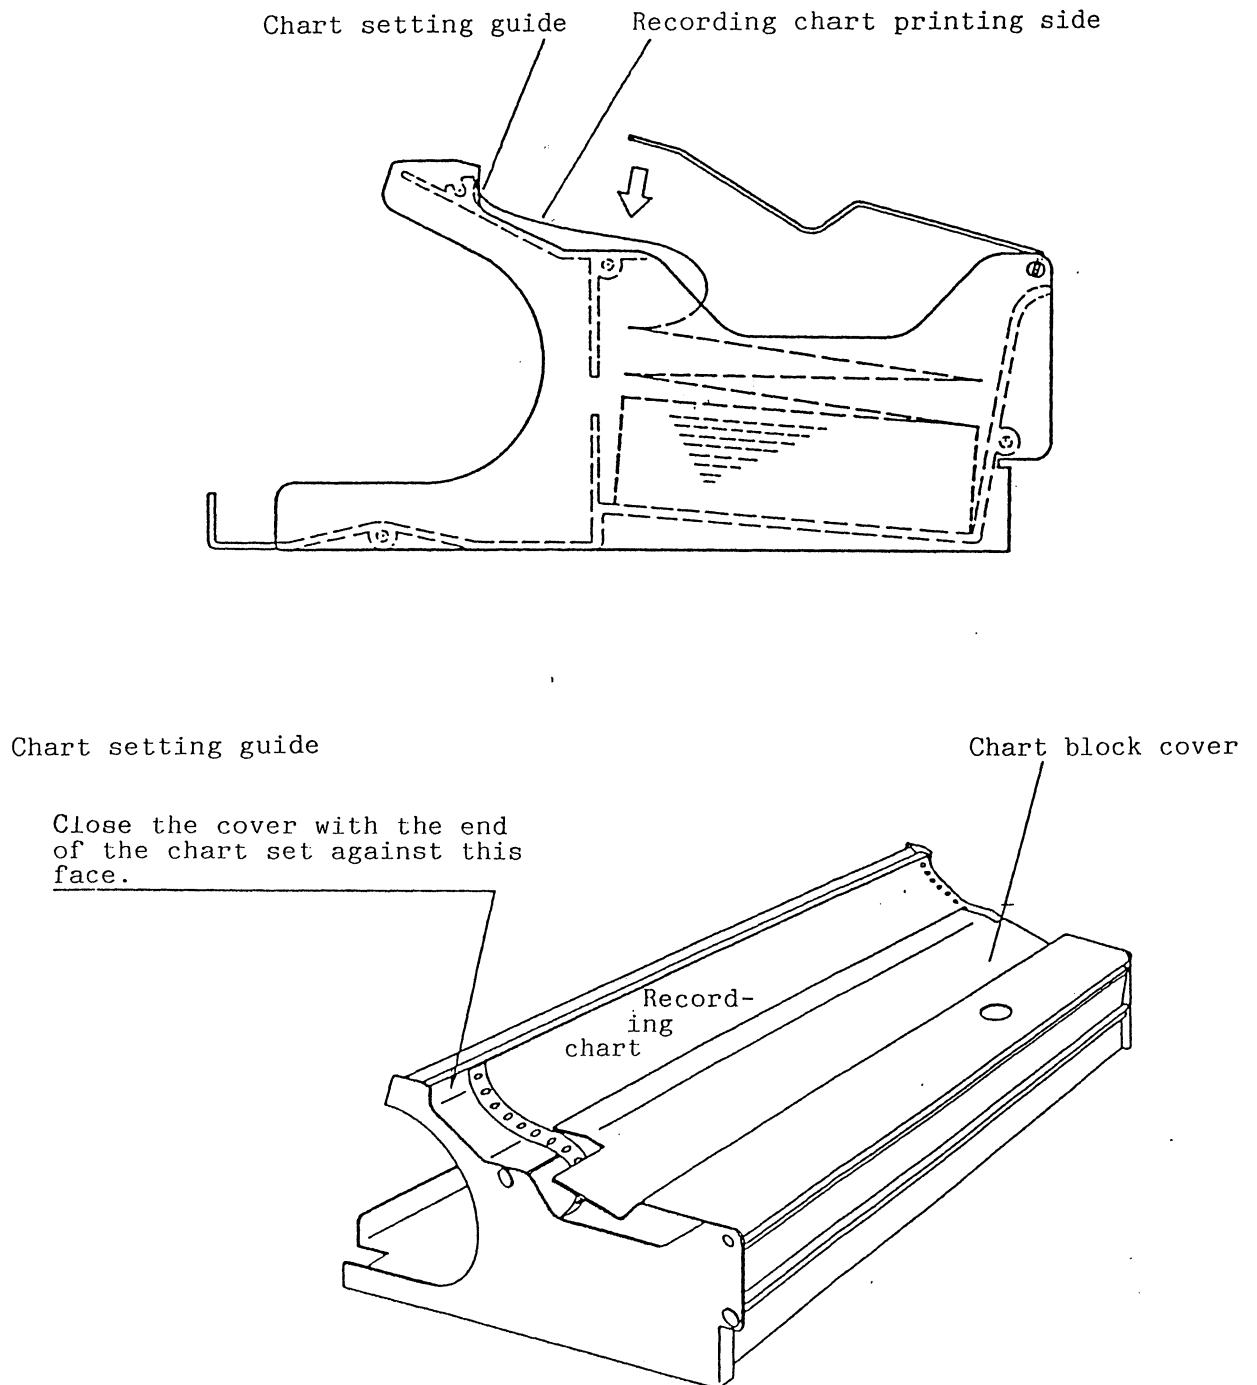

Figure 3.5
- (3) Open the chart block cover and install recording chart so that the round holes in the chart are located at the left side and the chart start mark faces upwards.
- (4) Pull the first sheet of the chart out of the chart block and contact the end of the chart to the chart setting guide. Then, close the chart block cover. (Figure 3.5)